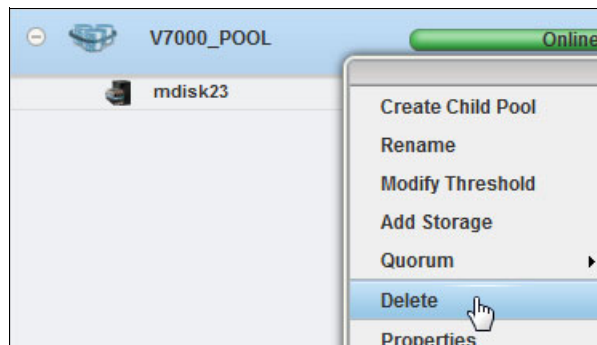

Figure 5-4 Delete Pool window
2. After all VDisks are migrated from the source MDisk group, you can delete the source MDisk group by clicking **Pools** → **MDisks by Pools**, right-clicking the pool, and selecting **Delete Pool**, as shown in Figure 5-4.